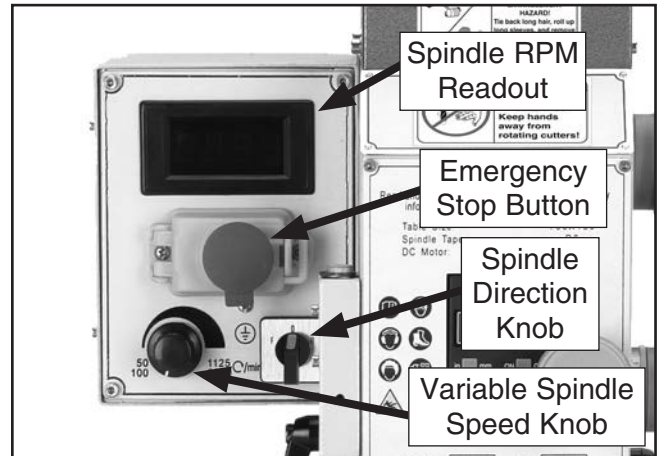

Figure 15. Test run controls.
4. Place the spindle direction selection knob in the "0" (OFF) position and press the Emergency Stop button (see **Figure 15**).